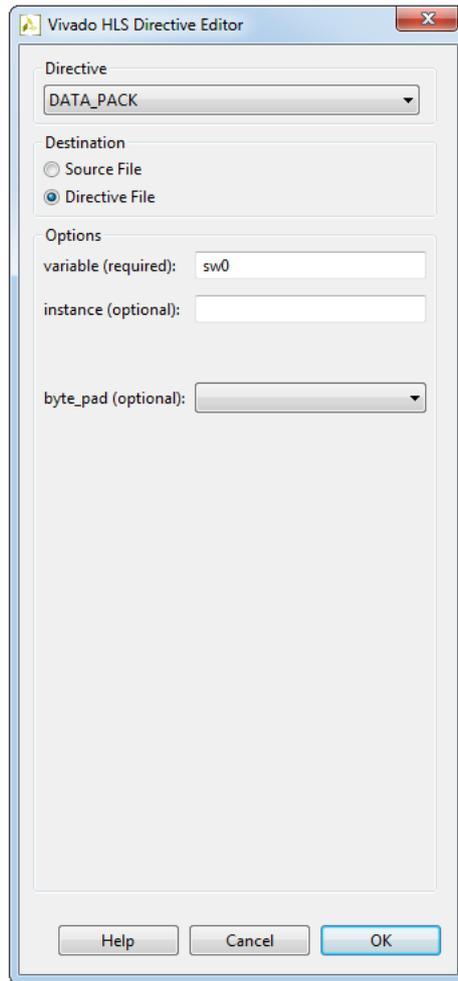

Figure 2.40: Vivado HLS Directives Editor dialog box
Step 2. In the **Vivado HLS Directives Editor** dialog box click on the **Directive** drop-down menu and select the appropriate directive, see Figure 2.40.